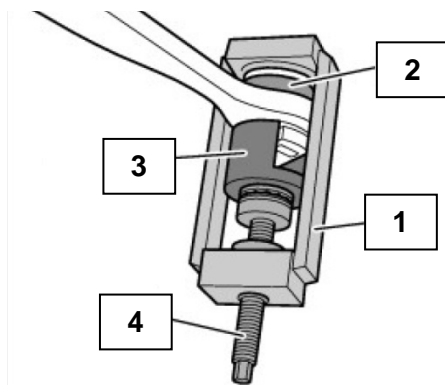

Fig.2
2. Attach the pressure sleeve (2) onto the ball joint with the open side upwards.
3. Press the spindle far enough out of the press frame (1).
4. Place the holder sleeve (3) onto the spindle (4) with the recess pointing towards the ball joint (see Fig. 2).
5. Mount the press frame (1) over the ball joint. In doing so, take care that the pressure sleeve (2) is positioned correctly in the press frame hole and that the recess of the holder sleeve (3) is aligned correctly to the ball joint (see Fig. 2).